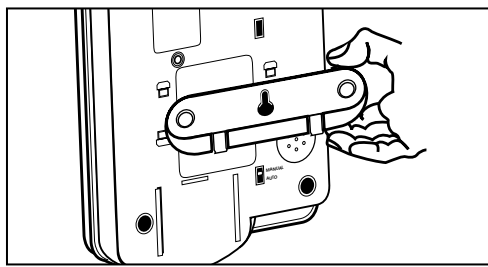

Figure 6 - Mounting Bracket for Wall Mounting
1. Slide the handset hook out of the base as shown in Figure 6 and reverse its position so that the hook points up and will hold the handset when you hang up.